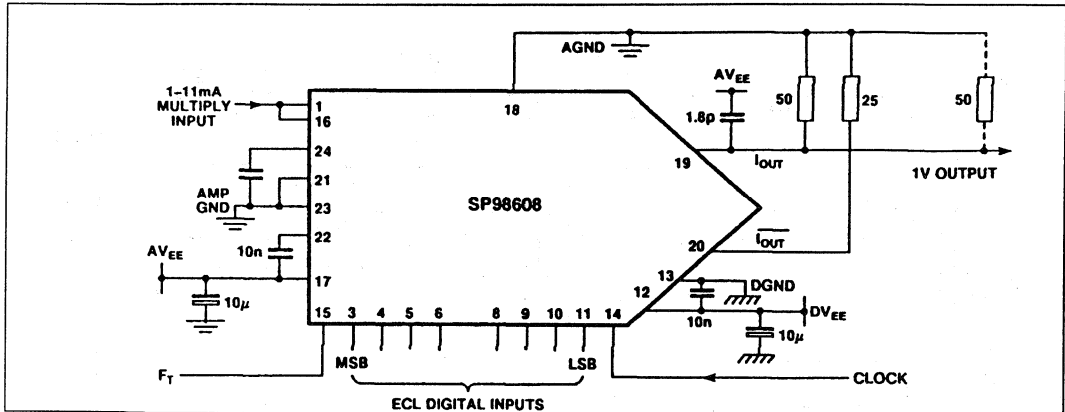

Fig.4 Current multiplying mode
- The output positive compliance can be increased beyond +1.0V at the expense of linearity. See Fig.4 for circuit configuration.
current multiplying mode is shown in Fig. 4. The transfer function is approximately;  $I_{OUT} \text{ (Full Scale)} = 4 \times I_{IN}$ . In this mode the current setting loop amplifier is not used.